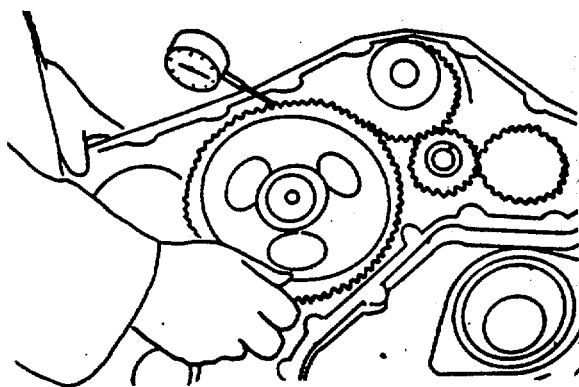

FIGURE 3-72. Camshaft Gear Indicator.
- (1) Position an indicator on a tooth of the camshaft gear (FIGURE 3-72).